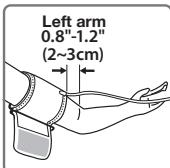
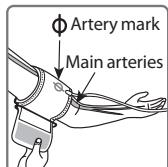

Fig. 3
Fig. 4
3. Put your arm through the cuff loop. The bottom of the cuff should be approximately 0.8" - 1.2" (2-3 cm) above elbow (Fig. 3). The tube should lie over the brachial artery on the inside of the arm (Fig. 4).